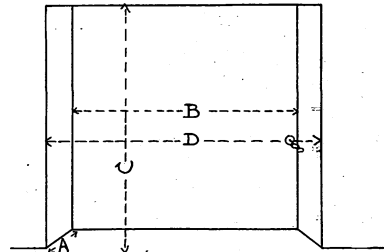

FIG. 6.
For a set of iron linings measure the depth of the opening from the front of the marble or slate facings back to the bricks at the rear of the fireplace Fig. 6 (A), also the width across the back B, the height of the opening C, and the width of the opening at the front D. This last measurement does not mean the width of the opening in the facing, but the width of the brick work or rough fireplace inside the facing or mantel.